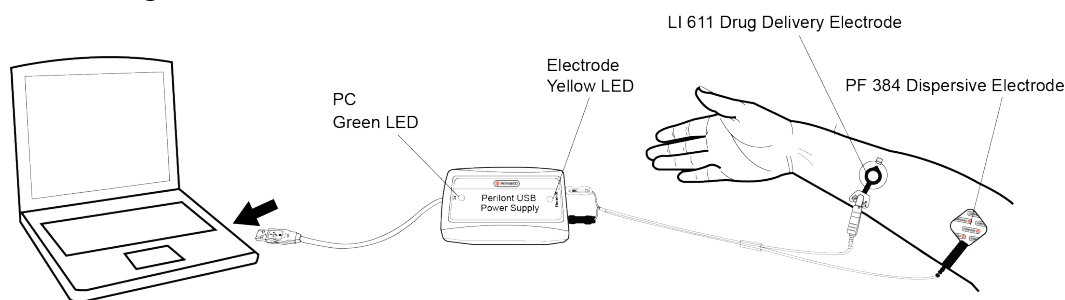

Figure 5-5
2. Set up the PeriIont Micropharmacology System and prepare the patient according to the *PeriIont Micropharmacology System Extended User Manual*, see Figure 5-5.